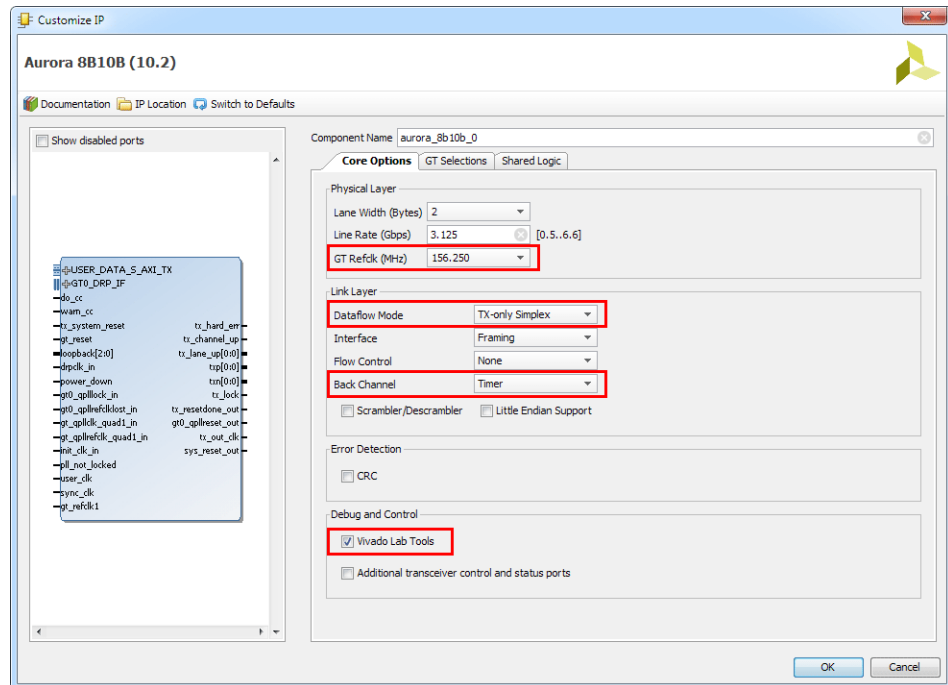

Figure 8: Aurora 8B/10B Simplex Core Options Settings
9. In the **Core Options** tab of the Customize IP window, set these options (see Figure 8):